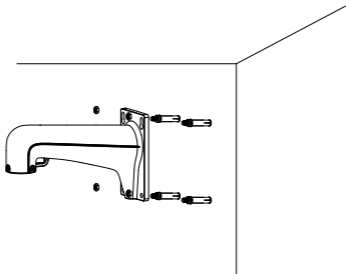

Figure 2-14 Install the Bracket
- 2) Route the cables from the bracket, and fix the bracket with four flat washers and four hex nuts, as shown in Figure 2-14.